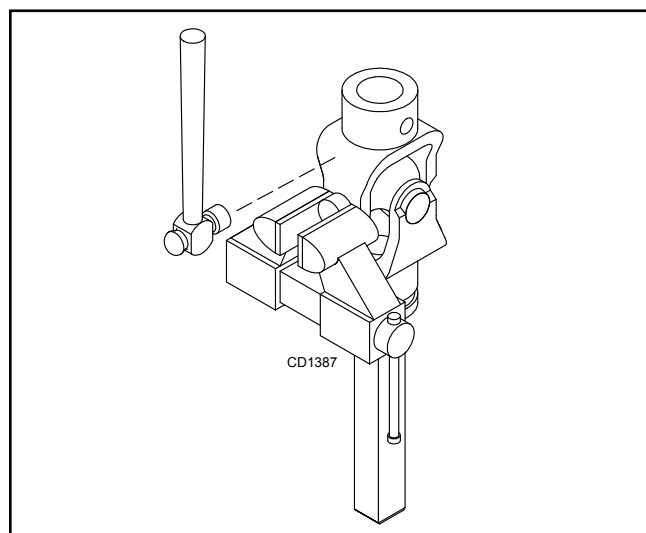

Figure 33. Remove Bearing Cups
3. Clamp cup in vise as shown in Figure 33 and tap on yoke to completely remove cup from yoke. Repeat Step 2 and Step 3 for opposite cup.